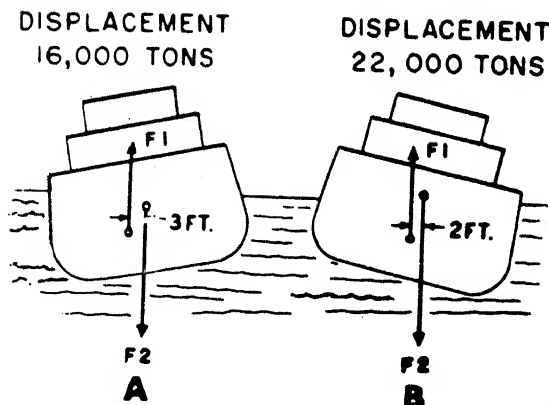

Figure 2B.
- Items 2-10 through 2-12 refer to figure 2B.
- 2-11. Which of the following conditions are shown in Part A of figure 2B?
- 2-12. Which of the following conditions is demonstrated in Part A of figure 2B?